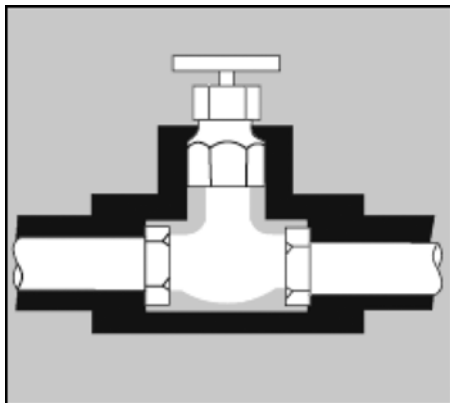

FIG. 9 Valve
10.4.1 *Valves*—In all cases, insulate as close to the fitting or valve as possible with straight tubing. Then insulate over or around the fitting or valve by sleeving appropriately sized insulation or flat sheet over the straight sections to create the correct build up of insulation. Seal all cutouts by adhering the insulation (with contact adhesive) to the pipe or body being insulated to prevent air (with moisture) or condensation intrusion into the system. See Figures Fig. 8 and Fig. 9.